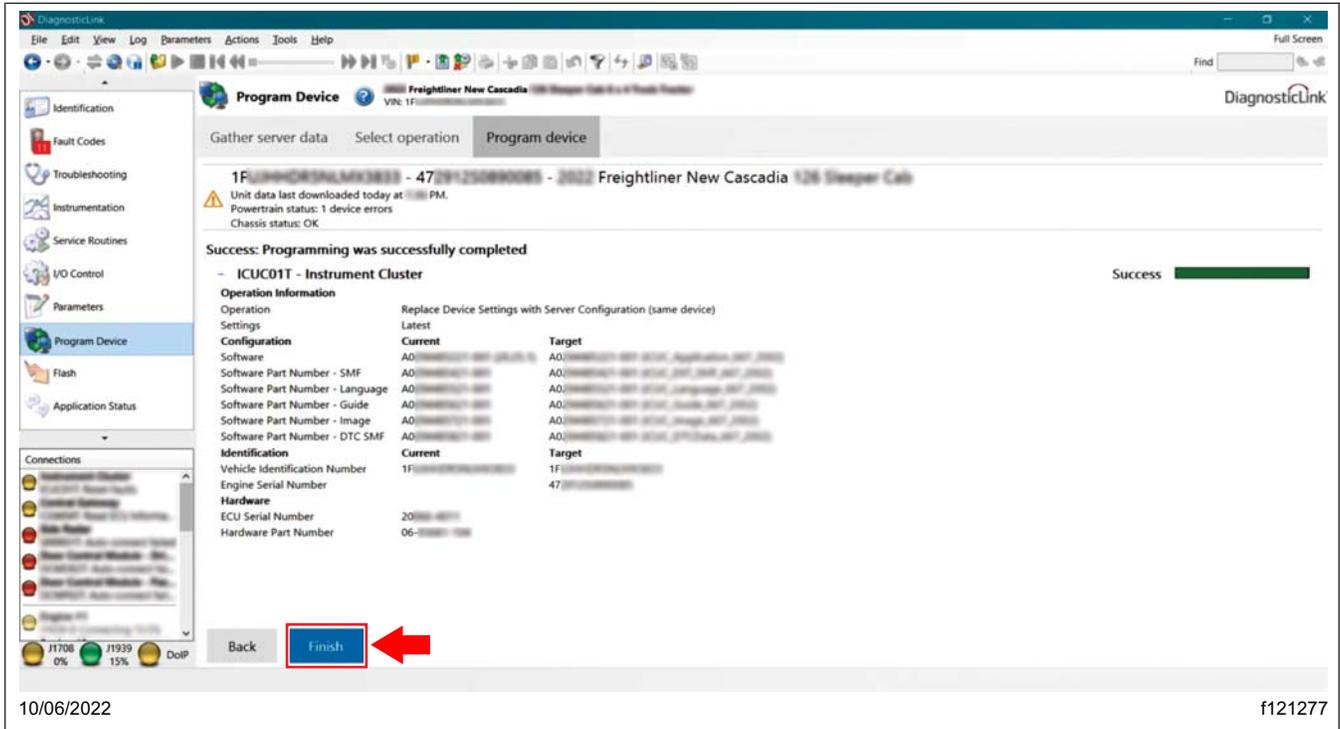

Fig. 22, Flashing Successful
24.5 Once the flashing is successful, select 'Finish.' See Fig. 22.